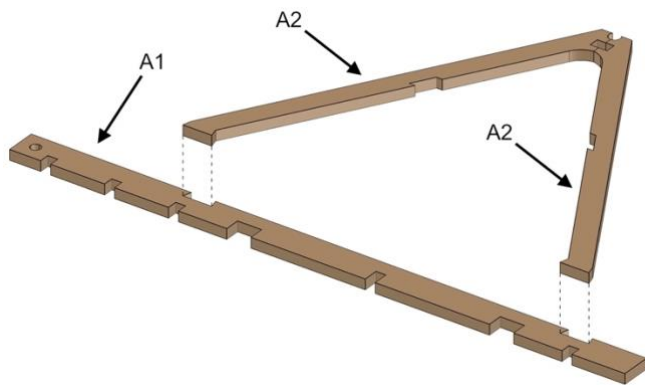

Fig. 1
- Align parts exactly as shown in *Fig. 1*.